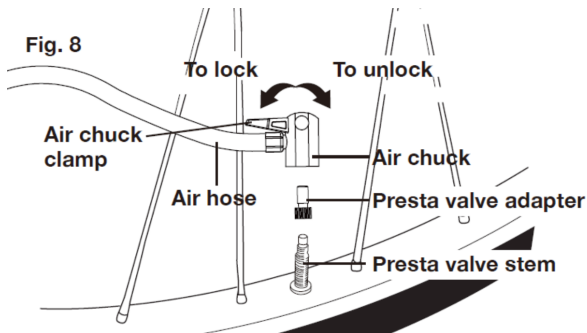

Fig. 9
1. Thread Presta valve adapter onto valve stem with a larger open end toward wheel (Fig. 9).
3. Clamp the end of the air chuck down onto the Presta valve adapter by pressing air chuck clamp down until it locks into place (Fig. 9).